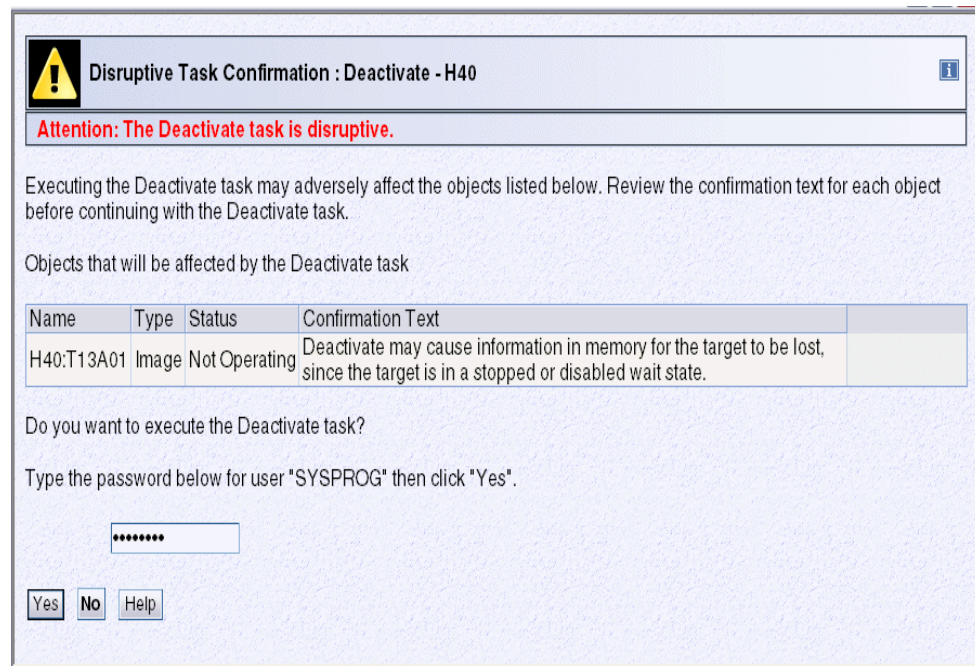

Figure 7-1 Disruptive Task Confirmation window
3. The Disruptive Task Confirmation window prompts for the current user's password (Figure 7-1).